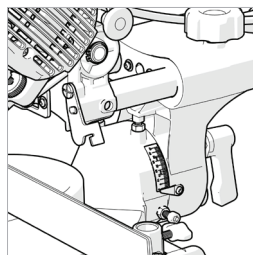

Fig. 12
- Ensure that the Cutting Head is upright, against its stop and the bevel pointer is indicating 0° on the scale. (Fig. 12)